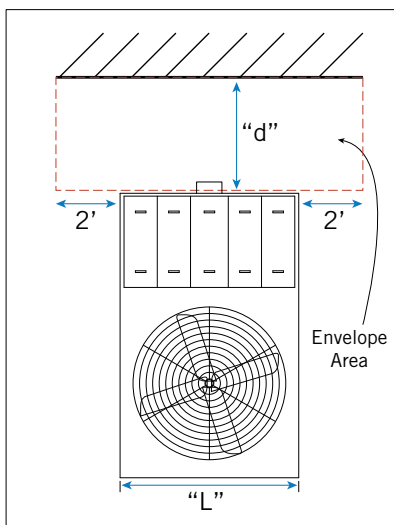

Figure 2a. Plan View of Unit Adjacent to Wall
- Air Inlet Requirements:** Should it be necessary to install a unit with the air intake facing a wall, provide at least distance “d” between the air intake and the wall, as illustrated in **Figures 2a** and **2b**.
The envelope area as illustrated on **Figures 2a** and **2b** on **Page 3** is  $[(L + 2 + 2) * d] + 2(H+h) * d]$ , where: